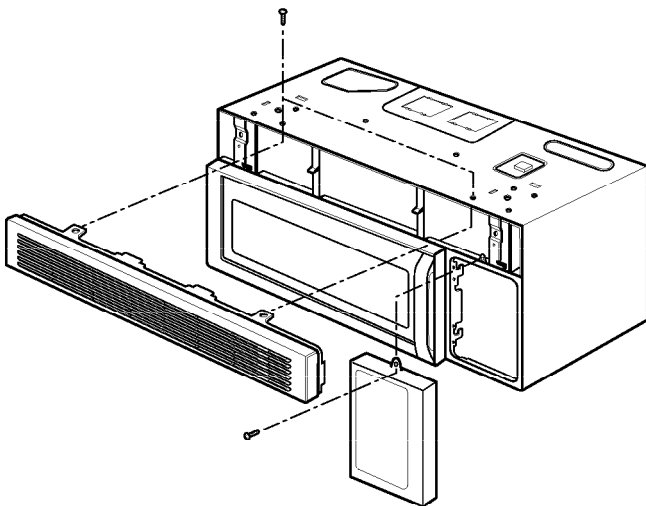

Figure 18
### (Figures 18 Through 21)
- (1) Remove the vent grille by removing two screws. (Figure 18)
- (2) Remove the controller by removing a screw and disconnect all wire leads. (Figure 18)